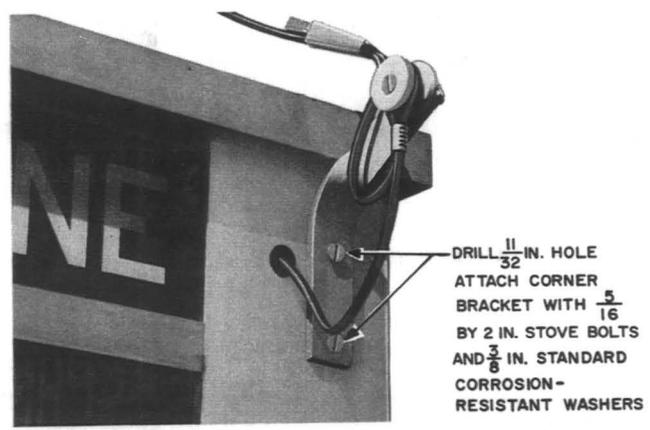

Fig. 7 — Corner Bracket as First Attachment
3.03 Fig. 7 illustrates a corner bracket used as a first attachment. The top access plate must be removed to install corner bracket.